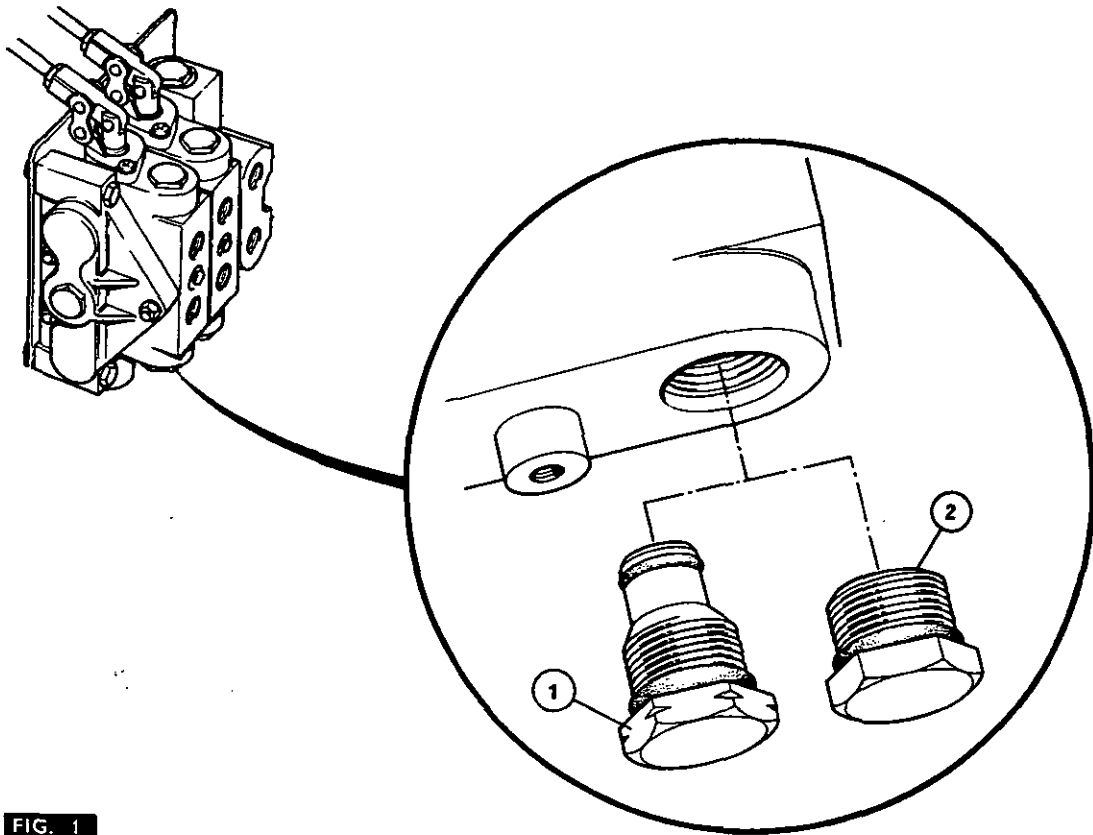

FIG. 1
1. Fig. 1. Remove the special  $\frac{7}{8}$ -14 UNF plug from the bottom of the spool valve.
2. From the spool valve kit, fit the standard  $\frac{7}{8}$ -14 UNF plug (2) (without a spigot) to the hole at the bottom of the spool valve.
- \*\* 3. If the outlet hose kit is not being fitted, also fit the  $\frac{3}{4}$ -16 UNF plug (9) from the kit to the lower outlet port on the spool valve.
1. Fig. 1. If necessary, remove the standard  $\frac{7}{8}$ -14 UNF plug (2) (without a spigot) from the bottom of the spool valve.
2. Fit the special  $\frac{7}{8}$ -14 UNF plug (1) (with a spigot and two 'O' rings) to the hole at the bottom of the spool valve.
- \*\* 3. If the outlet hose kit is to be fitted, if necessary, remove the  $\frac{3}{4}$ -16 UNF plug (9) from the lower outlet port on the spool valve.
**WARNING** - NEVER TRY TO OPERATE THE VALVE FOR DOUBLE ACTING OPERATION WITH THE PLUG (3) SCREWED INTO THE LOWER OUTLET PORT.